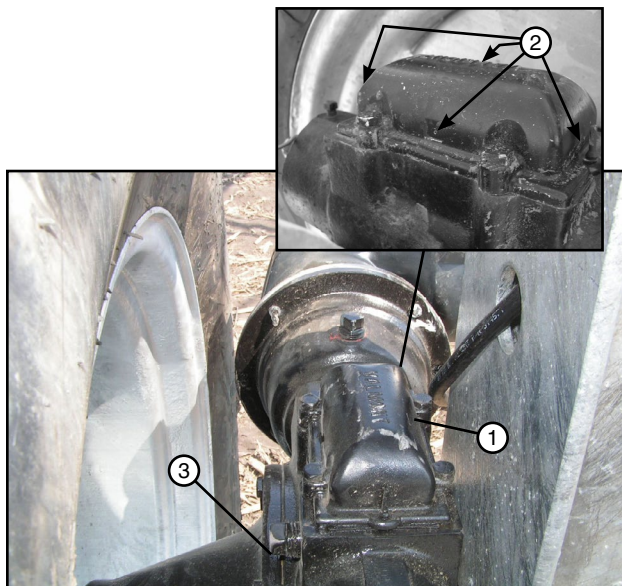

Figure 30-3 1. Expansion Chamber Cap
1. Clean all dirt away from the expansion chamber cap and remove the expansion chamber cap from the wheel gearbox. Do not allow dirt to fall into the gearbox when removing the cap. See Figure 30-3.